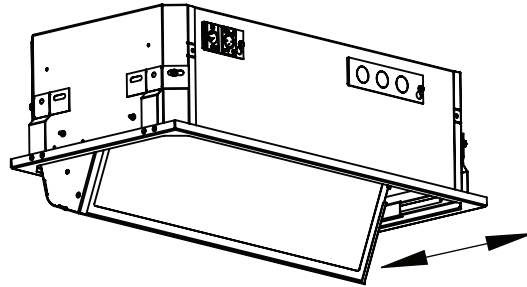

Figure 7
- Slide the carriage to the side for greater range of angular movement (Figure 7).